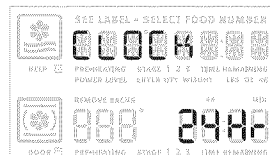

Fig. 2
2. Use the +hi & -lo to toggle to the 24hr option. -Fig. 2-.	+ - hi or lo